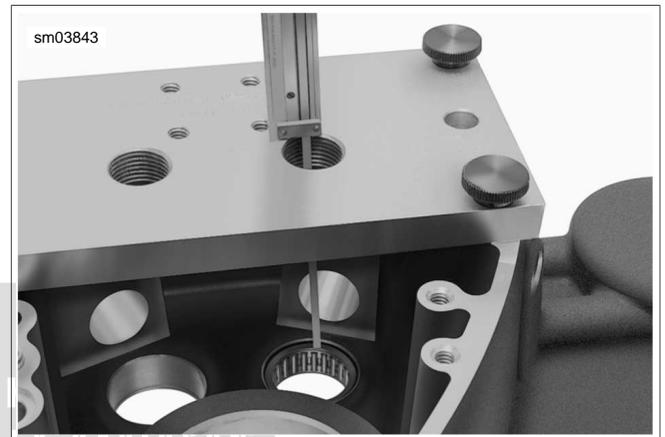

Figure 3-120. Measure from Top of Support Plate to Edge of Needle Bearing
- d. See Figure 3-120. Inserting dial caliper through forcing screw bore, measure distance from top of support plate to edge of needle bearing.